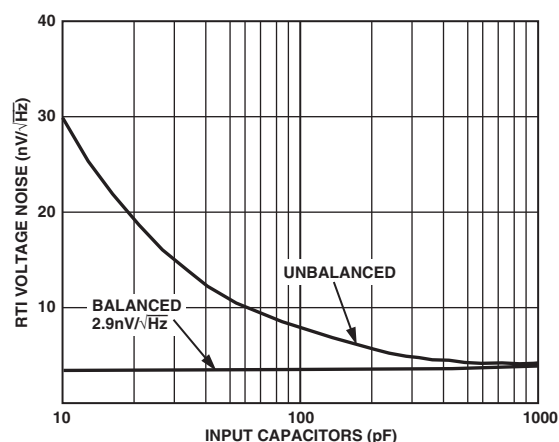

Figure 16. RTI Voltage Noise vs. Input Capacitance
As mentioned previously, it is good practice to balance the source impedances (both resistive and reactive) as seen by the inputs of the AD743. Balancing the resistive components will optimize dc performance over temperature because balancing will mitigate the effects of any bias current errors. Balancing input capacitance will minimize ac response errors due to the amplifier's input capacitance and, as shown in Figure 16, noise performance will be optimized. Figure 17 shows the required external components for noninverting (A) and inverting (B) configurations.